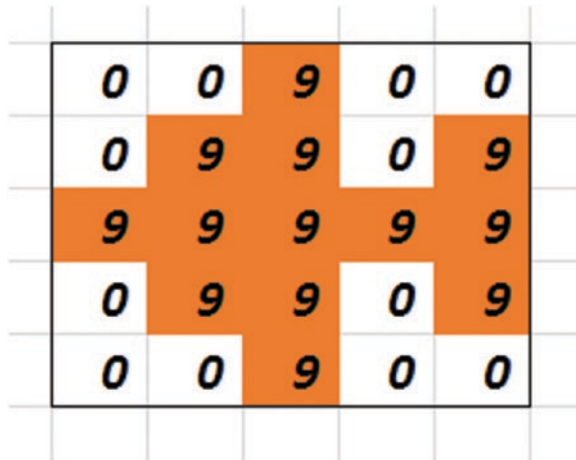

Figure 2-7. Encoding squares
2. Encode each empty square with 0 (off) and each filled square with 9 (the maximum brightness level), as shown in Figure 2-7.